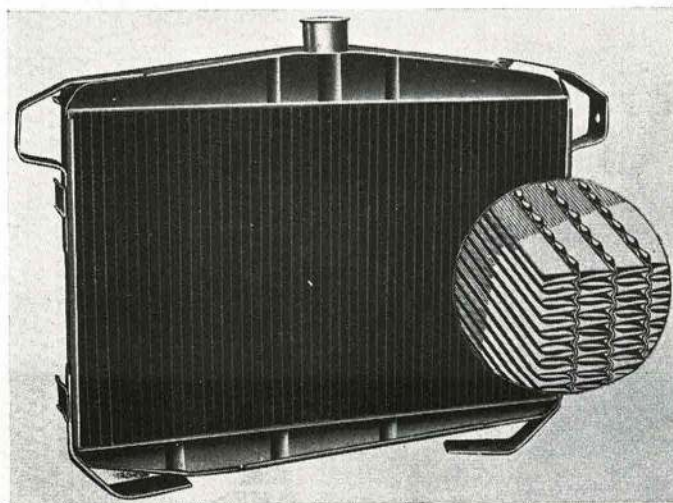

Fig. 16. FLAT TUBE RADIATOR
26. Flat Tube Radiator. This type of radiator (Fig. 16) consists of a number of flat tubes separated by closely corrugated cooling gills; the tubes and cooling gills are soldered together to form a rigid structure. The top and bottom tanks are soldered directly to the top and bottom of the core, and the side supports are soldered to the sides of the core and the top of the top tank. Water flows through the flat tubes, and the cooling gills assist the dissipation of heat.